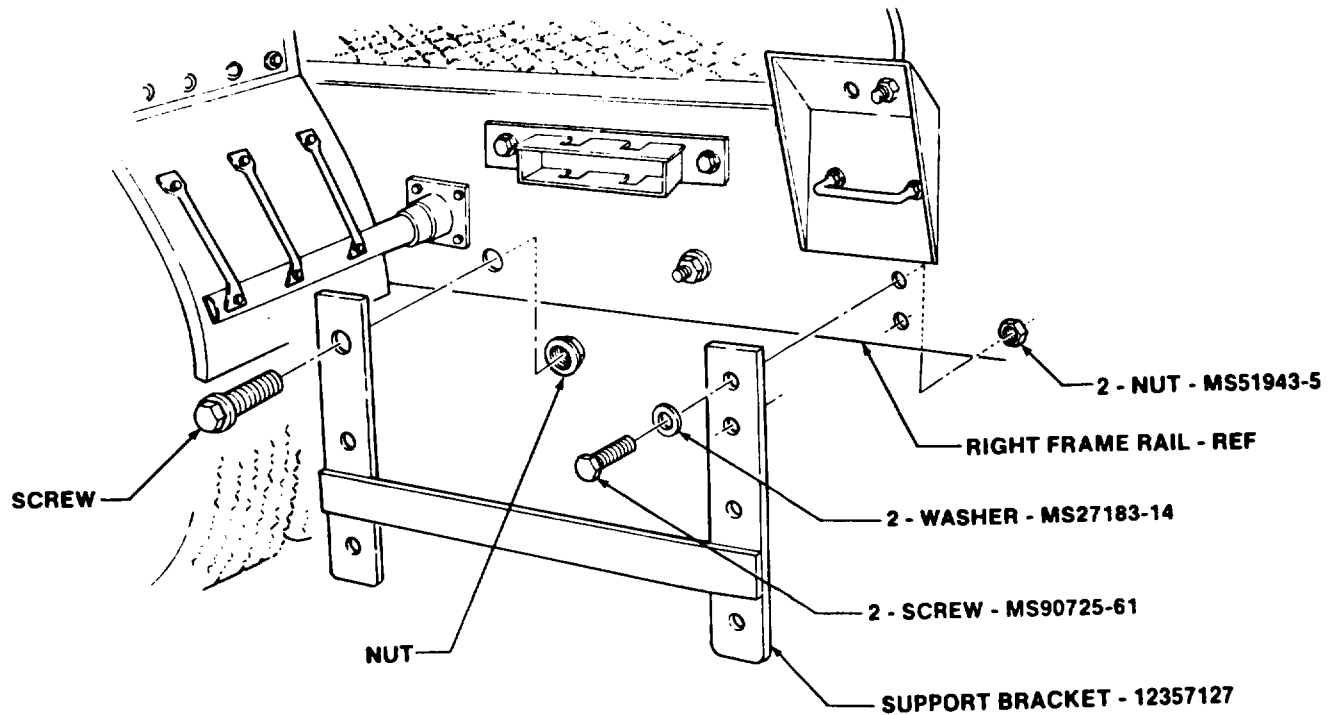

FIGURE 6
(10) Install 12357127 support bracket to right frame rail and secure with two MS90725-61 screws, MS27183-14 washers, and MS51943-5 nuts as shown in figure 6. Tighten nuts finger tight.
(11) Install screw (removed in step 9) through support bracket and right frame rail and secure with nut (removed in step 9) as shown in figure 6. Tighten nut finger tight.
(12) Tighten two screws installed in step (10) to 20 lb ft (40.7 N.m).
(13) Tighten screw installed in step (11) to 95 lb ft (128.8 N.m).